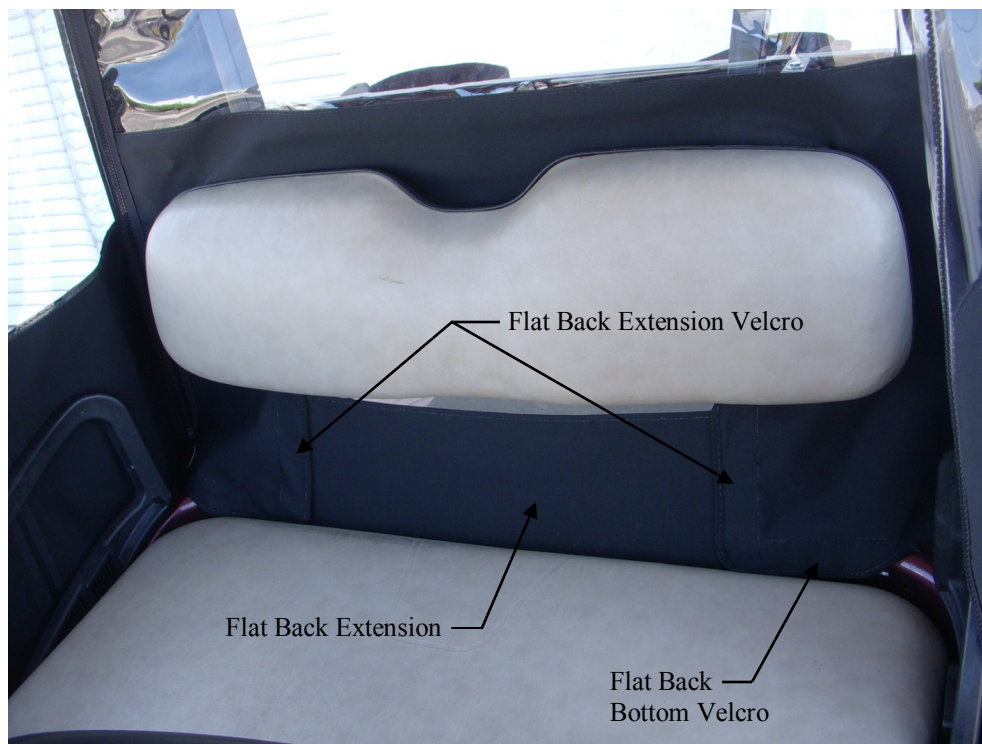
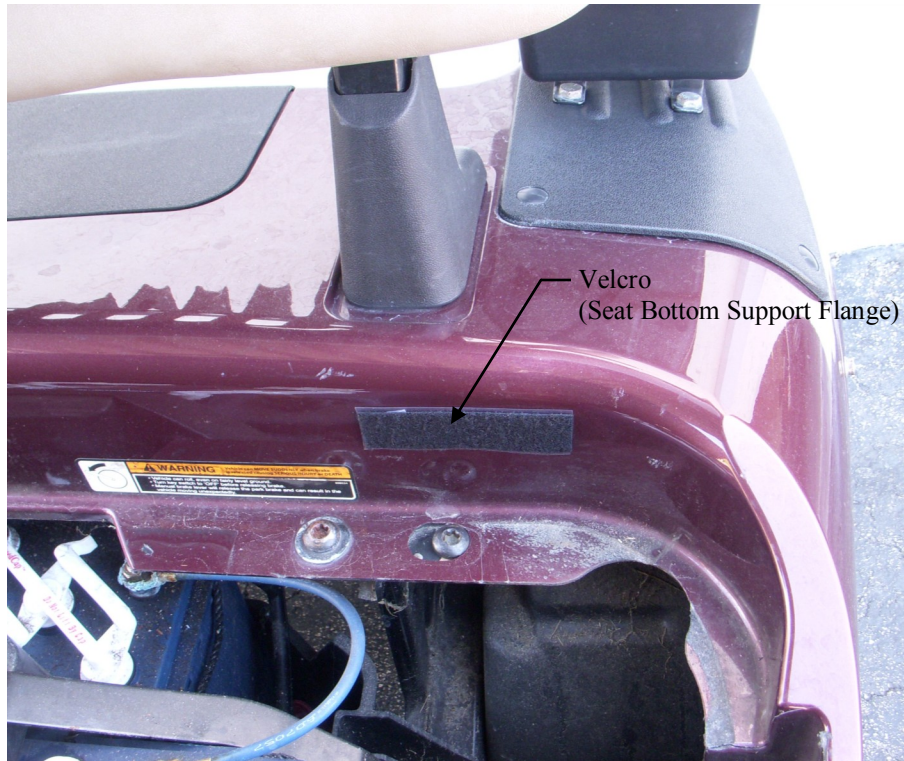

Figure 2-2
Figure 2-3
4. Attach the flat back extension between the two flat back flaps, the extension and flaps both have Velcro preinstalled. When installed the extension should be between the seat bottom and the seat back as shown in figure 2-2
5. Remove the seat bottom from the golf cart. Take the supplied 8" long Velcro and cut it into two equal lengths of 4". Attach the two strips of Velcro to the bottom of the flat back flaps as shown in figure 2-2. The Velcro is to be installed on the inside of the seat bottom support flange as shown in figure 2-3. **Important:** Clean all surfaces prior to adhering Velcro to golf cart surfaces. Once surfaces have been cleaned, peel off the plastic backing from Velcro and attach to the inside surface of the seat bottom support flange.